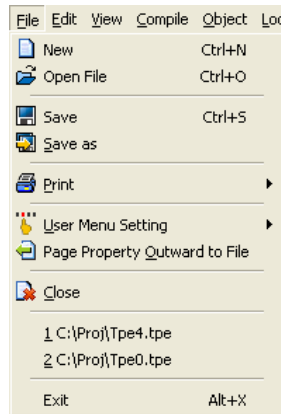

Figure 2-7 Menu bar—File
- **File:** It is used to access a file, as shown in Figure 2-7. Please refer to section 3.1 for more